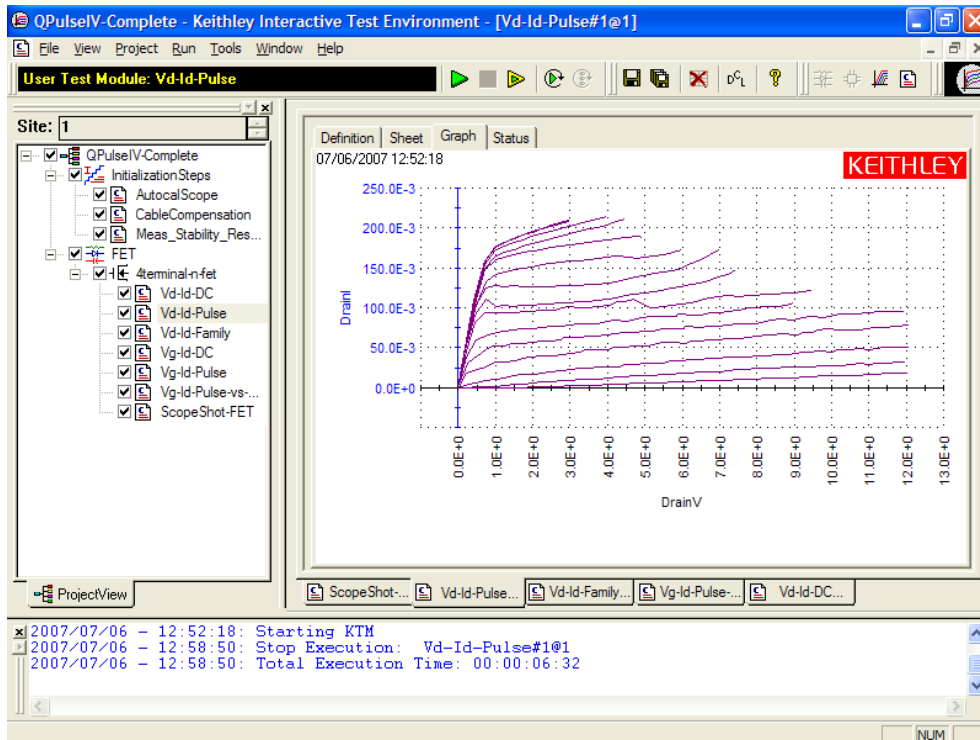

Figure 18. Screenshot of the QPulseIV-Complete project, showing a V_D - I_D family of curves graph.
4. The screen should resemble the screen shot in either Figure 17 (Demo-QPulseIV) or Figure 18 (QPulseIV-Complete). The right portion of the screen may not be the graph shown, but the project navigator (left side "tree" in window) should match that shown in Figure 17 or 18.